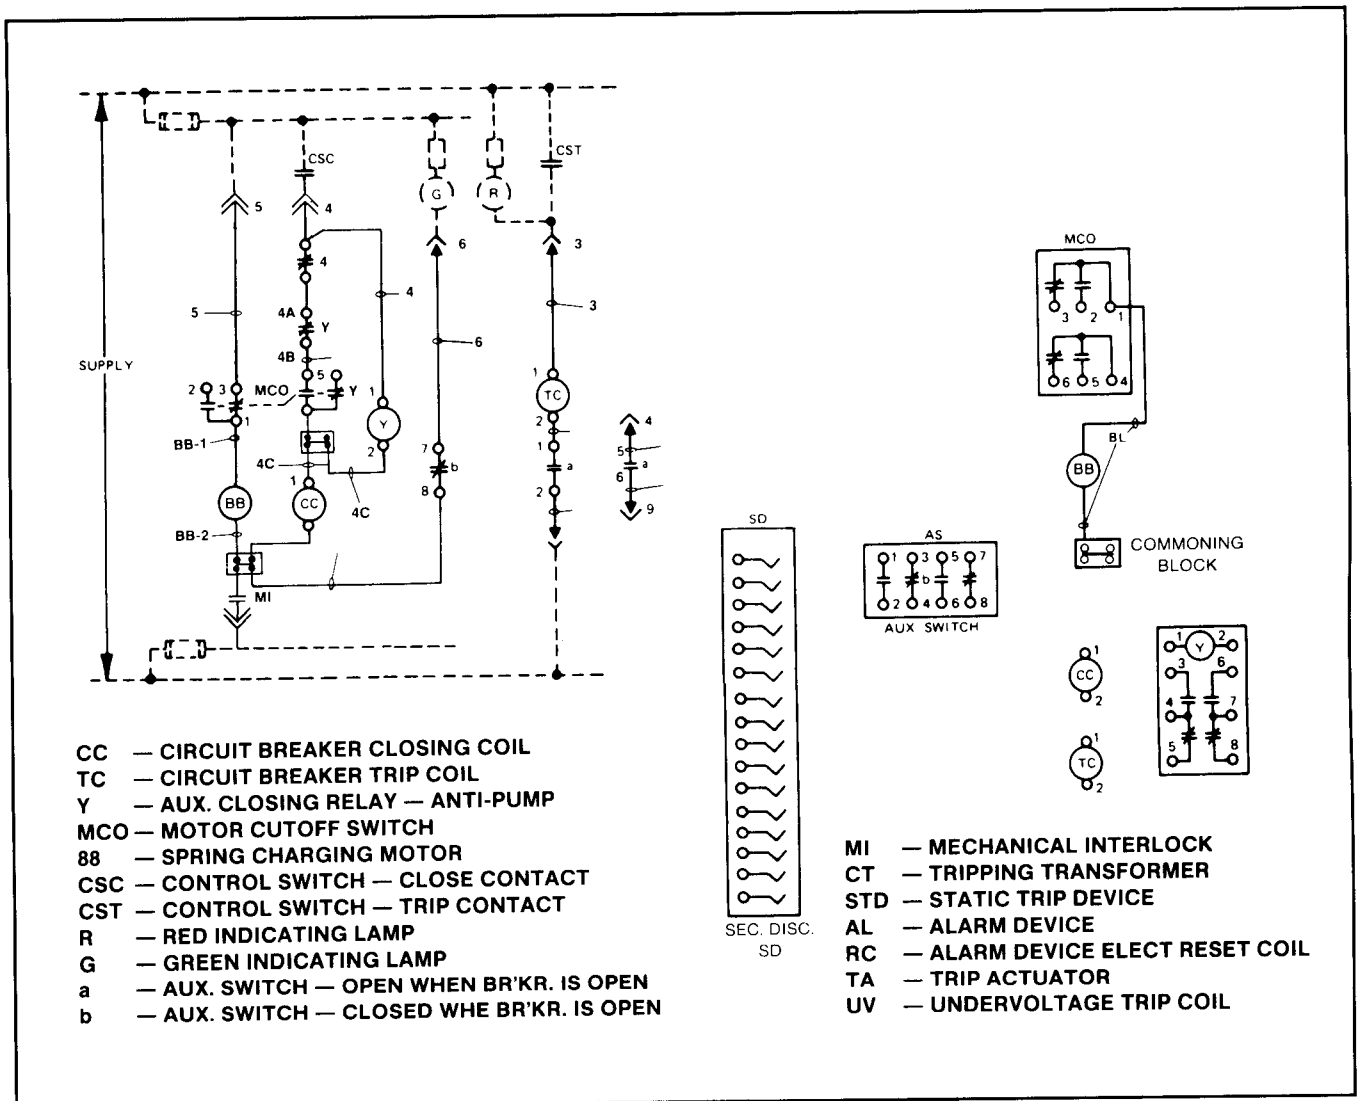

Figure 2. Typical Wiring Diagram — Electrically Operated Breakers
Tripping	Push in manual trip rod (94). OR If shunt trip is provided, operate remote trip control switch (CST). (See Fig. 2).